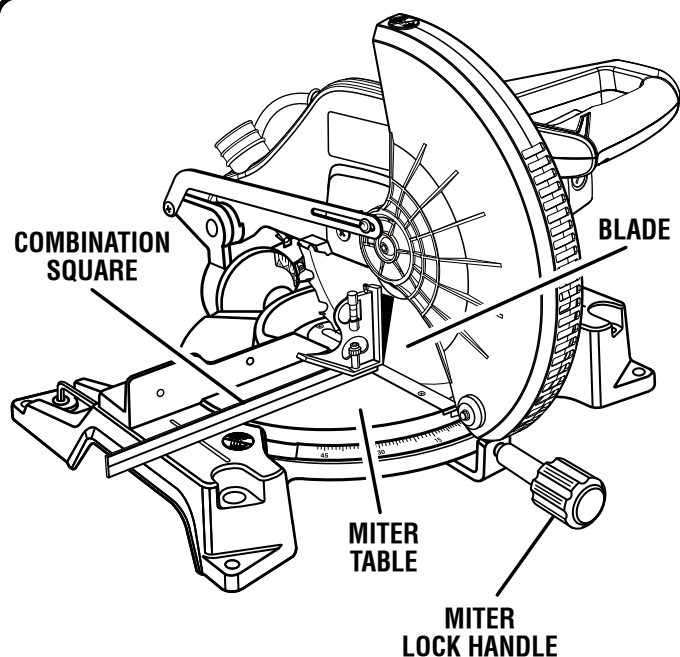

Fig. 21
- If the top or bottom of the saw blade angles away from the square as shown in figures 21 and 22, adjustments are needed.